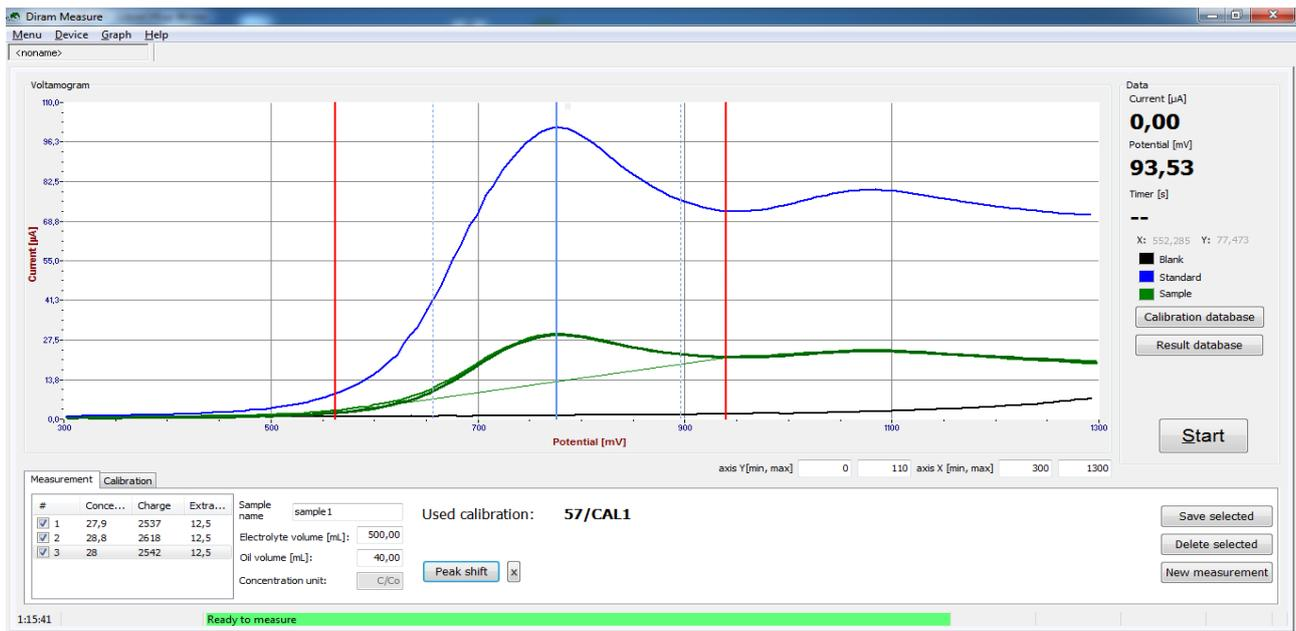

Figure 12: Results for the electrolyte - **Blank** (black curve), **Standard** (blue curve) and three times measured **Sample** (green curves).
23. Use the same procedure to measure Sample at least three times until stable and reproducible results are obtained. (**Fig. 12**). Average of measured values (27.9 %, 28.8 % and 28.0 %) gives resulting 28.2 %. The sample oil contains 28.2 % of original antioxidant level.